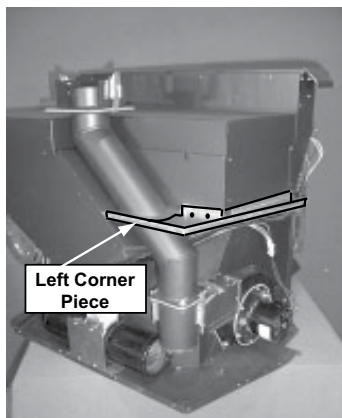

Figure 18.1
8. Install the left shroud corner with 2 screws into the hopper body and 1 down into filler piece. **Figure 18.1.**